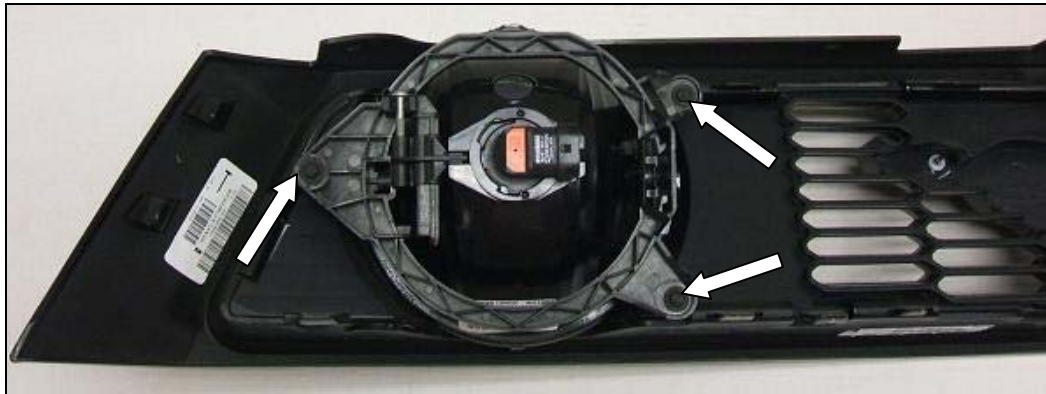

Figure 9
16. Remove six (6) screws (3 per side) and the two (2) fog lamp assemblies from the factory Grille assembly. Refer to Figure 9.